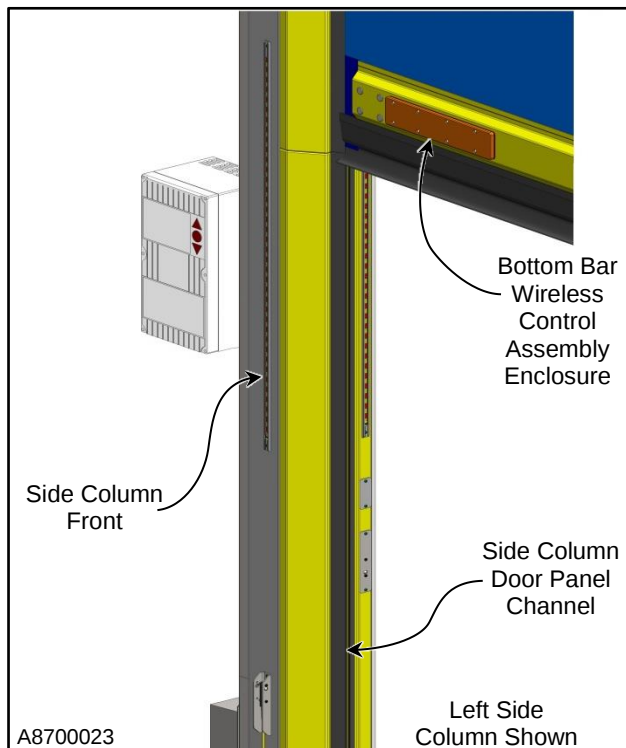

Figure 43
NOTE: With the door fully closed, there should be at least 3 inches of clearance between the foam of the counterweight and the foam at the upper end of the side column (See Figure 43). With the door fully open, the counterweight guides must be properly positioned. Make any necessary adjustments to properly position either counterweight .
1. Move the door panel to the fully closed position or whatever height is preferable for accessing the bottom bar wireless control assembly enclosure. (See Figure 43)